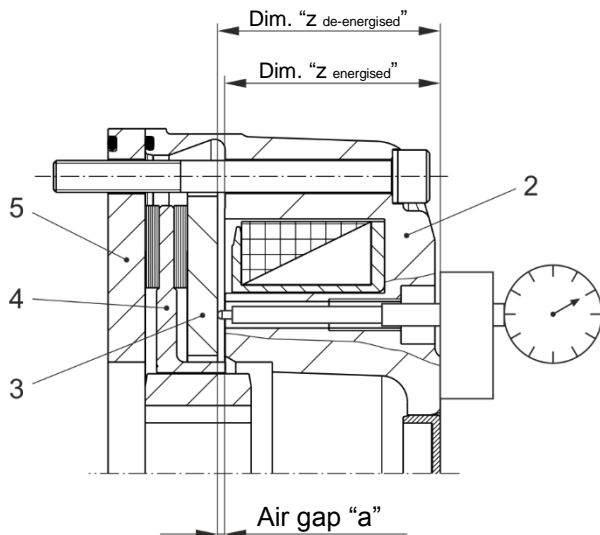

Fig. 5
The air gap can be determined by removing the cap screw (21) including the copper sealing ring (22) and then measuring dimension "z" (Fig. 5) once in energised and once in de-energised condition.